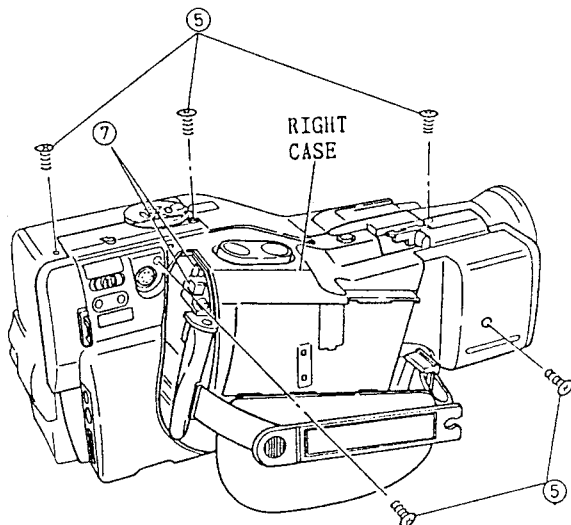

Fig. 2-8
5. Remove five (5) screws holding the right case. (See Fig. 2-8)
7. Disconnect two (2) connectors (PG1, PG2) and remove the right case in the direction of the arrow. (See Figs. 2-8, 2-9)
6. Remove the right case. (See Figs. 2-8, 2-9)
5. Remove the right case. (See Figs. 2-8, 2-9)